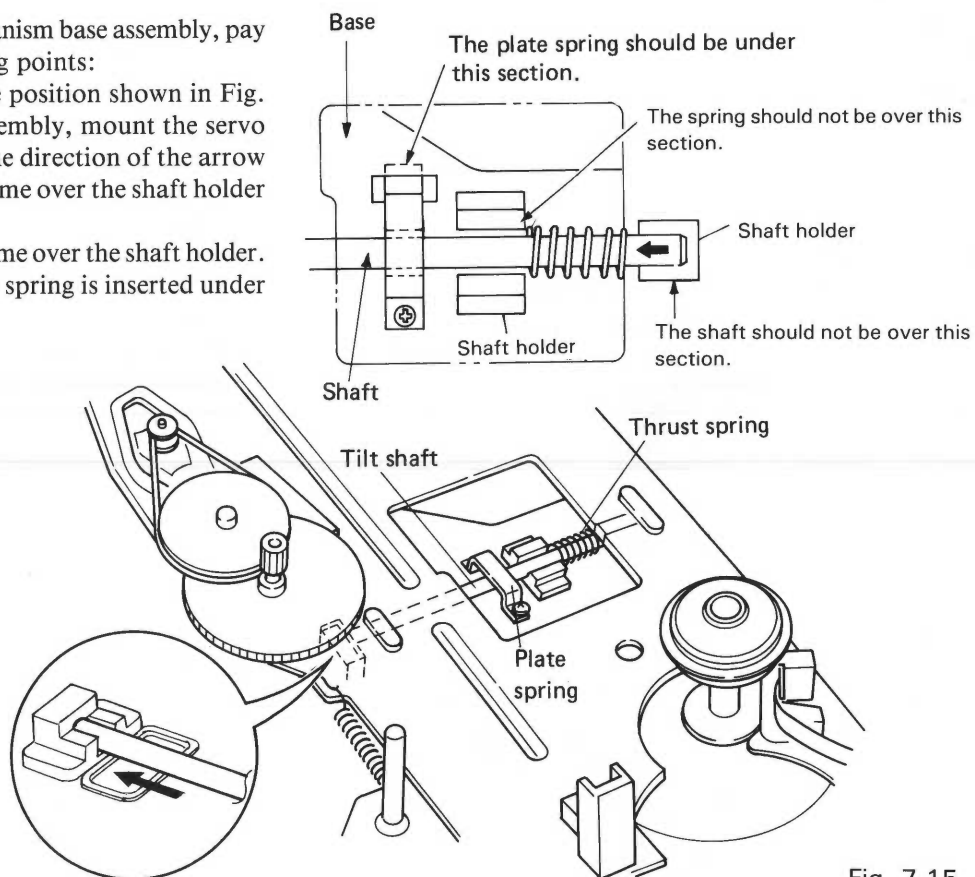

Fig. 7-15
- After inserting the shaft in the position shown in Fig. 7-14 of mechanism chassis assembly, mount the servo mechanism base assembly in the direction of the arrow so that the tilt shaft does not come over the shaft holder as shown in Fig. 7-15.